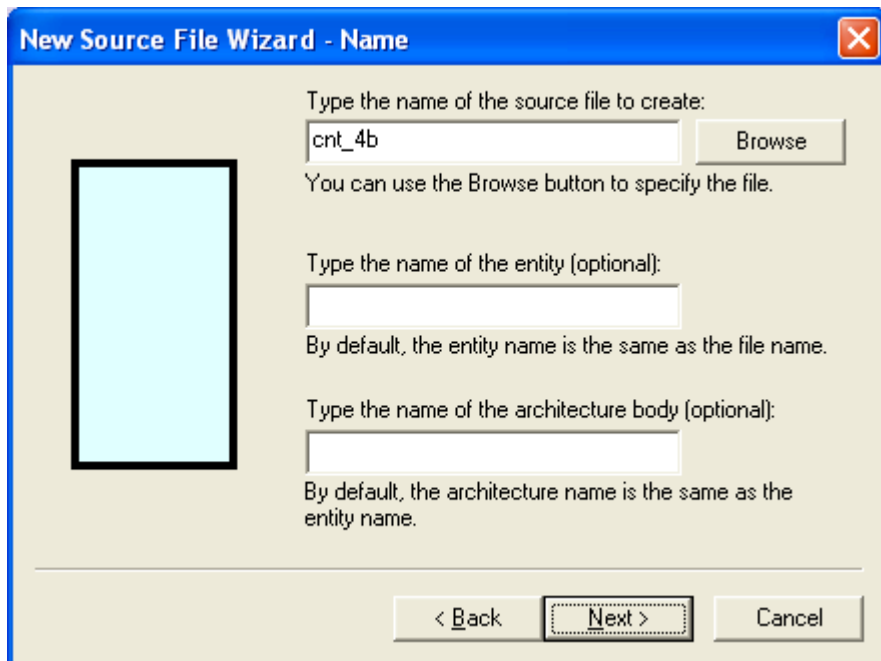

Figure 3: New Source File Wizard
2. Type cnt_4b as the name of source file in the first box as shown in the Figure 3 . Click Next.